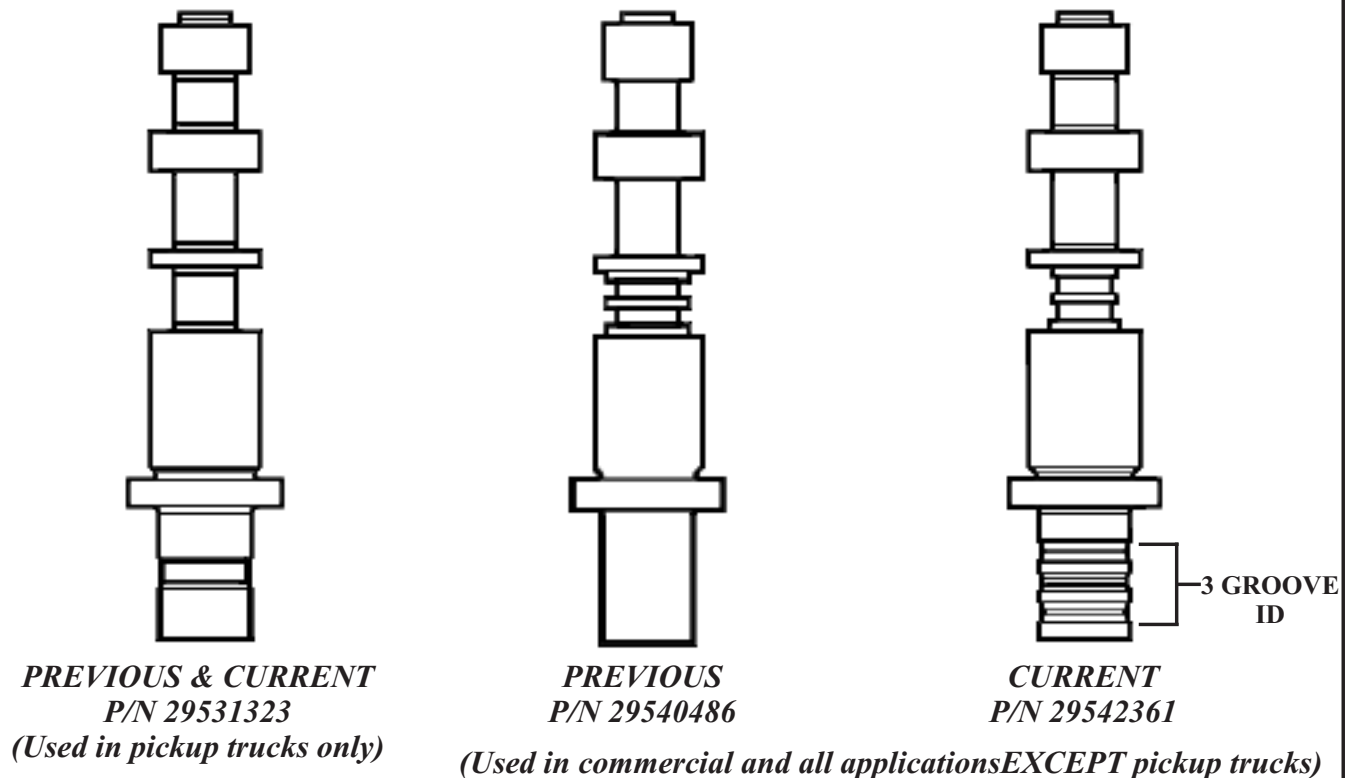

Figure 6
- (4)The Main Pressure Regulator Valve has changed depending on application as shown in Figure 6.